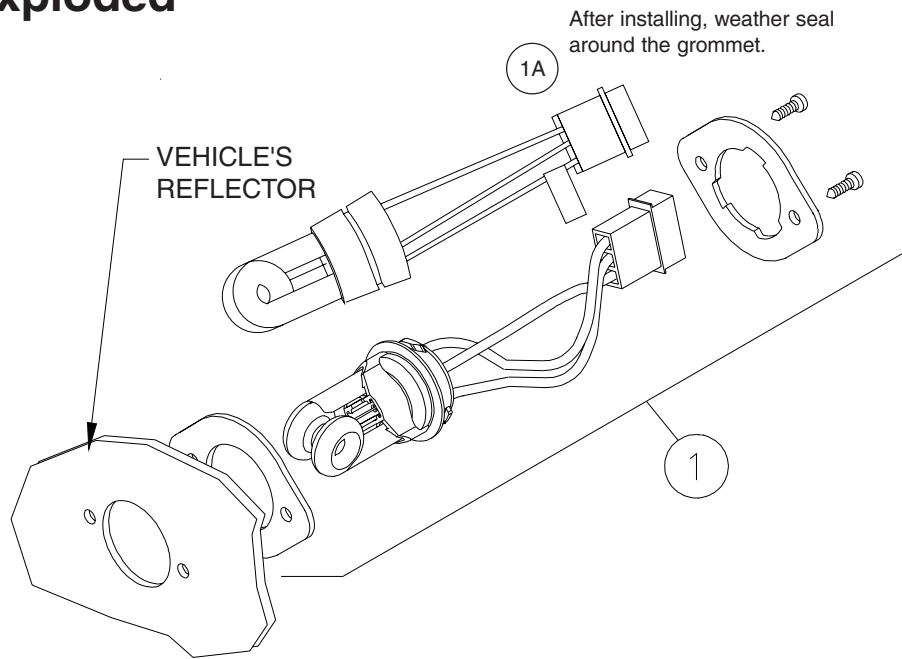

FIGURE 5
3. Install the strobe tube assembly into the reflector as shown in Figure 5. Weather seal around the grommet with a bead of silicone.